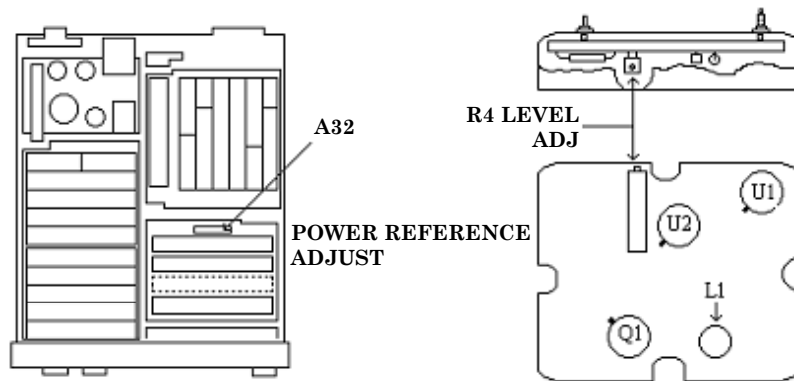

Figure 17. A32 board.
(4) If TI frequency indication is not between 49.5 and 50.5 MHz remove the thumb screw retaining the A32 oscillator and slide the assembly out. Adjust A32L1 (fig. 17) for 50 MHz \pm 0.5 MHz.
- (8) Press TI keys as listed in (a) and (b) below:
- (9) Using the V off value recorded in **13 a** (4) above and C value from **13 a** (7) above, perform the adjustment calculation using the formula below:
- (10) Adjust A32R4 LEVEL ADJ (fig. 17) to adjustment value calculated in (10) above. (R)
- (11) Disconnect equipment setup.